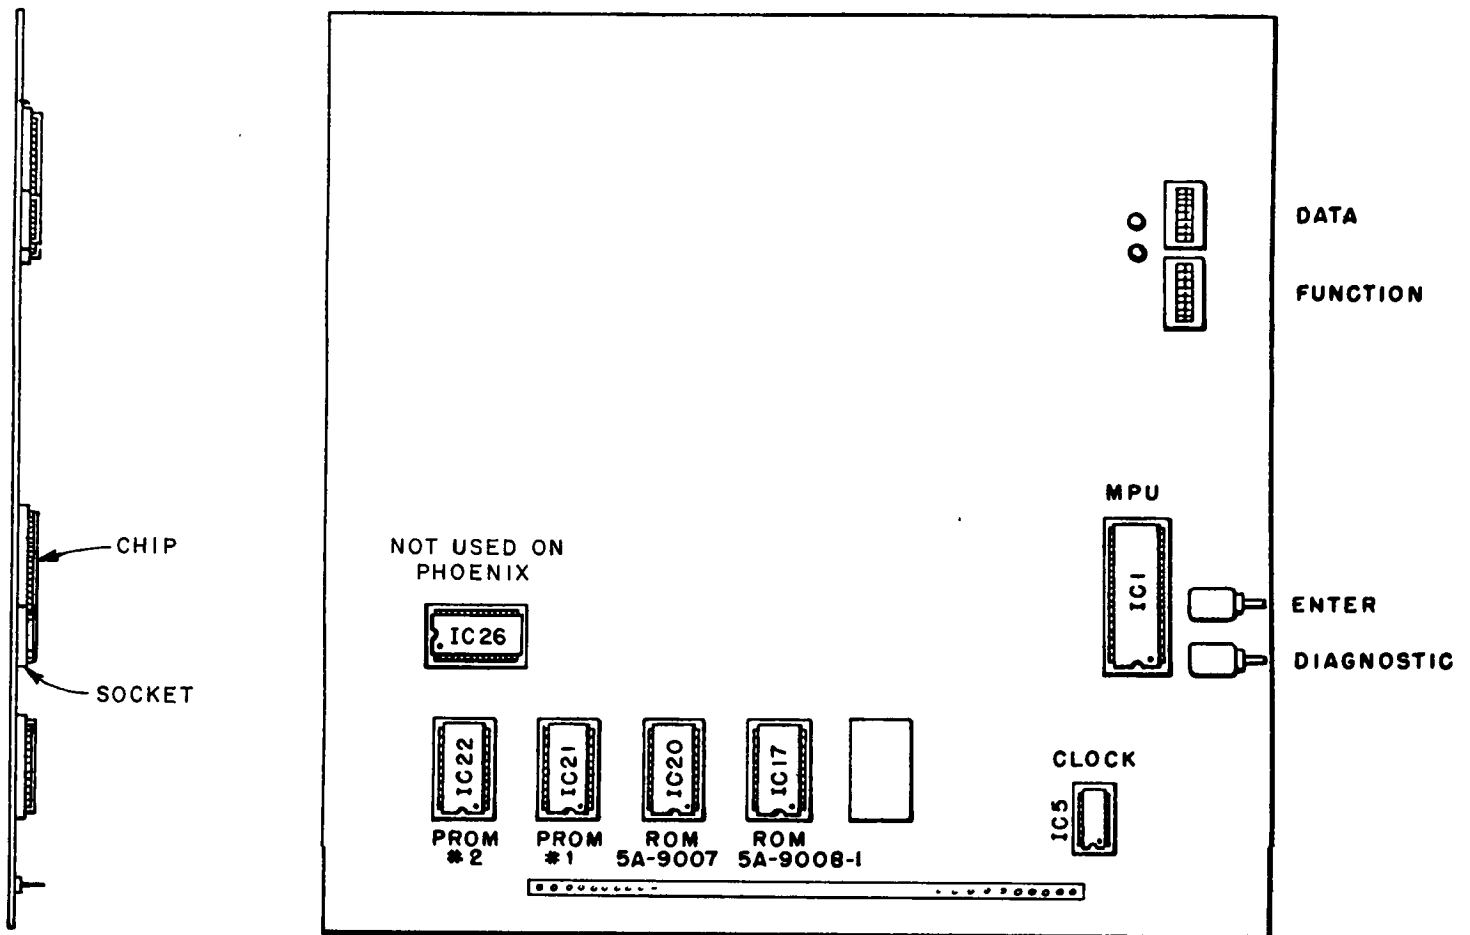

Figure 2. Location of Socketed Components and Switches on CPU Board
After all the connectors have been checked as outlined above, gently press on the integrated circuit (IC) packages that are socketed on the CPU and Sound Boards (Figures 2 and 3). **DO NOT** remove any of the IC packages from their sockets. Also check that the batteries are still securely mounted to the CPU Board. **DO NOT REMOVE THE BATTERIES!** If the batteries are removed with power off the game will go to factory settings for all the options and particular changes will have to be restored manually before the game can be put on location. The batteries are all installed with the positive (+) end up. Battery life is about the same as shelf life or about one year. When it is time to replace the batteries, remove the batteries while the game is ON or the game will go to factory settings.